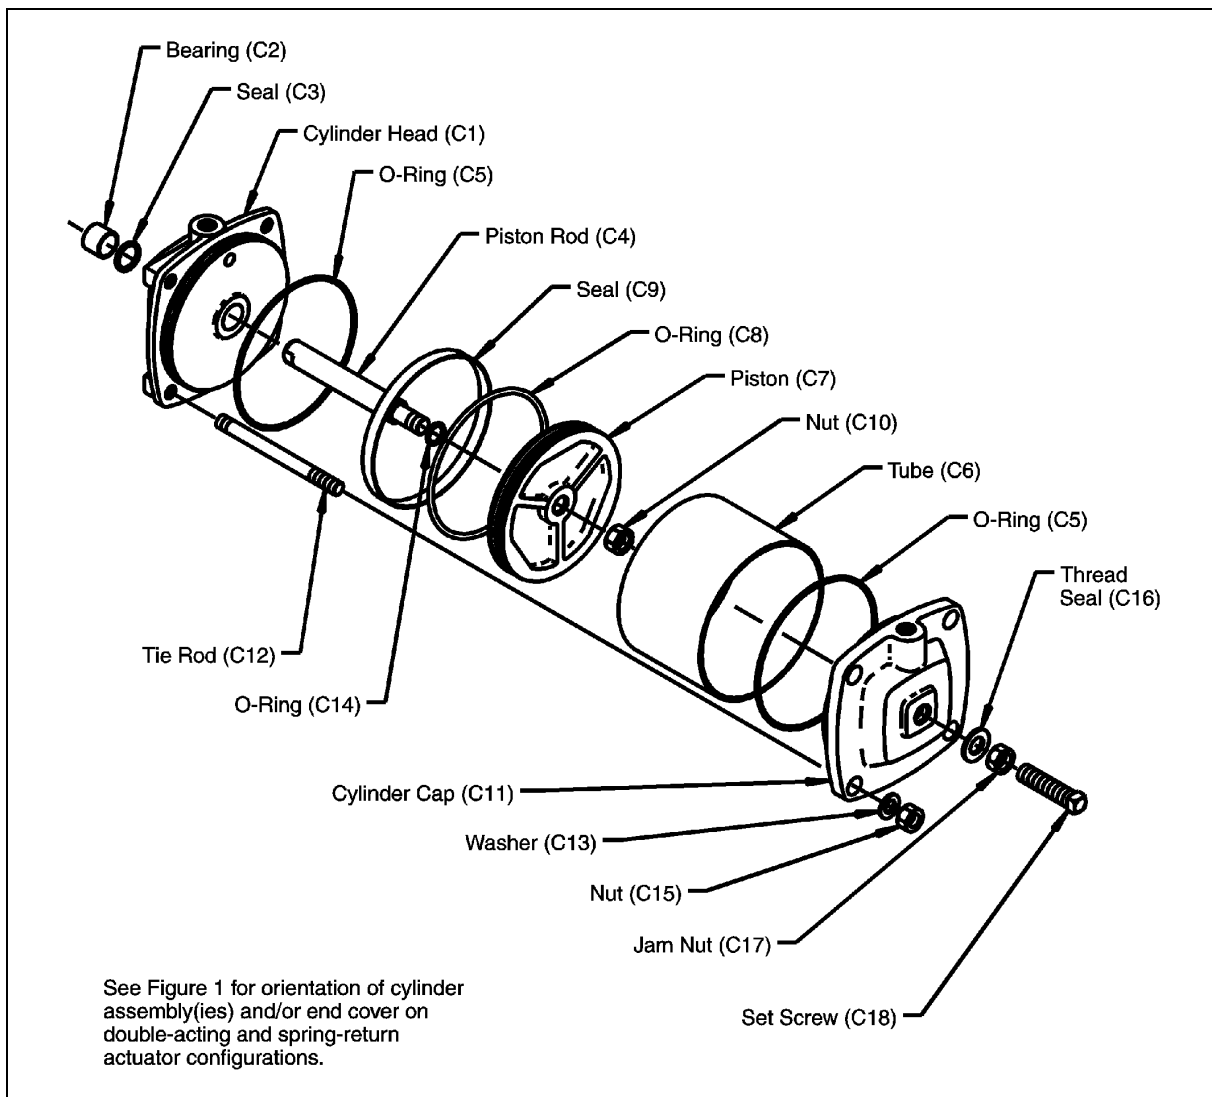

Figure 3—Double-Acting Cylinder Assembly
Note: The double-acting cylinder assembly is shown in Figure 3.
5. Remove the rack screw (B7) and lockwasher (B6), and separate the rack (B5) from the piston rod (C4) [C4 is shown in Figure 3].
Refer to Figure 3 for component identification.
Clean and inspect all parts. Refer to Figure 3 for component identification.